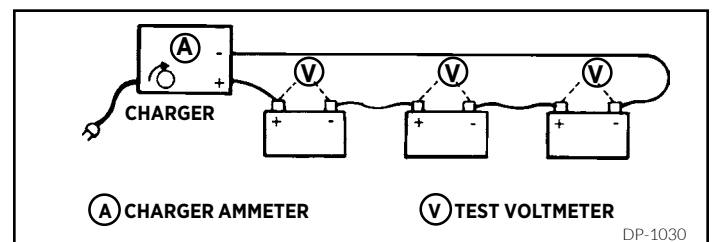

FIGURE 1.
With current-limiting, the batteries are connected so that each battery receives the same amount of charging current. (See Fig. 1 for typical hook-up.)
2. Connect batteries to charger as shown in Figure 1. Do not exceed the charger's voltage capabilities by connecting too many batteries. Make sure all connections are clean and tight. Set charging rate within 5-10 ampere range and maintain this charging rate throughout the charging procedure.
- b. Freedom batteries: Check for green dot indication. Shake or tilt batteries at hourly intervals to see if green dot will stay visible. Also check terminal voltage of each battery with test voltmeter connected, as shown in Figure 1. While on charge, if voltage across the battery is 16.0 volts or more, or if the green dot appears, remove battery from charger. Any battery that becomes hot (125°F, 52°C), as determined by touching and feeling the case, or any battery that violently gasses, should be removed from the charger for testing. Readjust control to maintain the same charging rate on remaining batteries as charged batteries are removed.